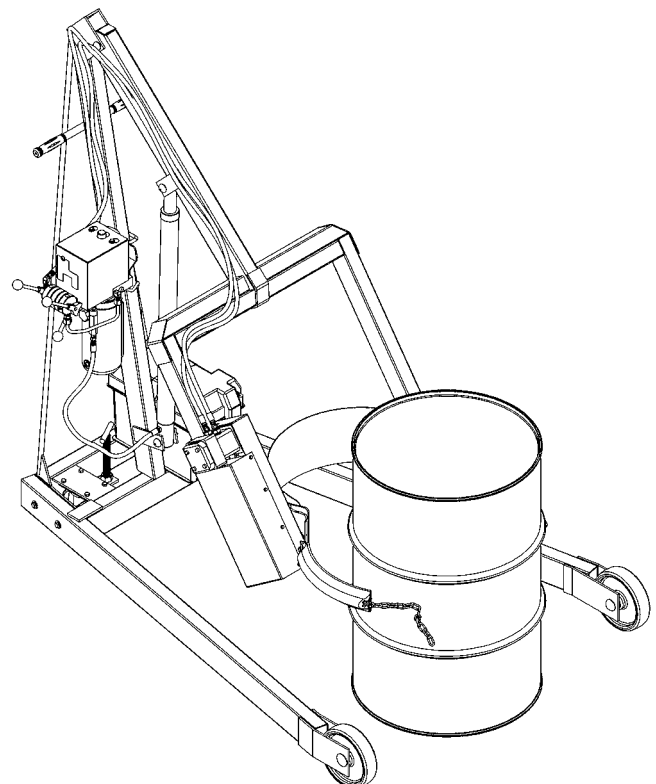

Figure 3.1
The step-down floor lock is located behind the base (figure 3.1). To activate, step down on the floor lock until it locks in down position. When floor lock is activated it prevents unwanted free wheeling of unit. Floor conditions determine effectiveness of floor lock. Operator should verify its holding action before depending on it to hold.
- 2.) Using the "LIFT" control as described in "**Machine Description - Controls**", position drum holder assembly with back band at the middle of drum (Figure 3.1). With ratchet plate swung open and cinch chain hanging from chain hook, push unit until back band rests firmly against drum. Some adjustment to tilt angle of saddle (drum holder) may be necessary to ensure band fits flush on drum.